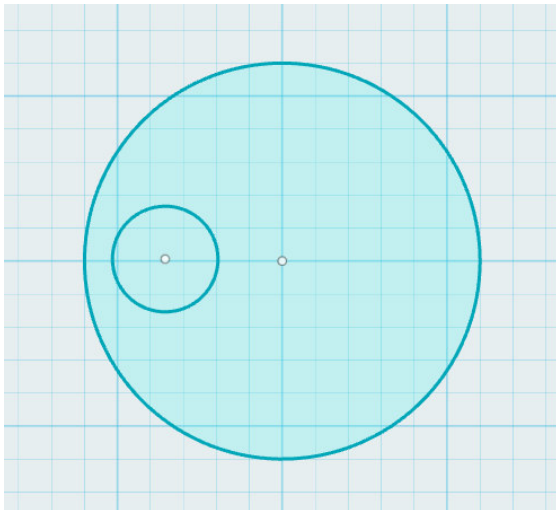

Figure 4-130 Two circles sketched on the main plane
2. Sketch two circles (Figure 4-130).